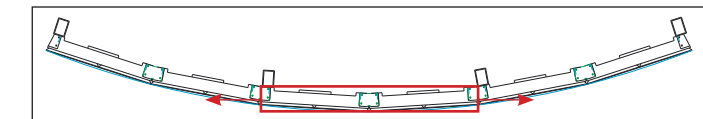
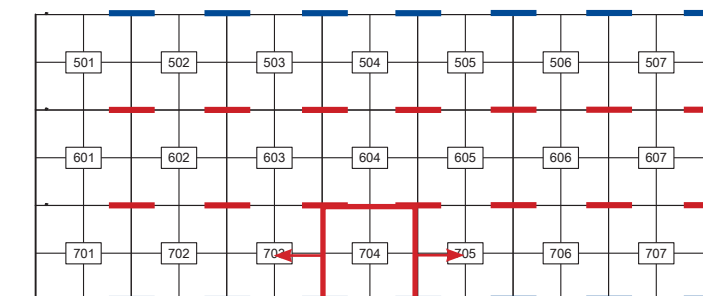

Figure 10: Install First Row of Panels (Top View)
Figure 11: Install First Row of Panels (Front View)
Note: Top and bottom interconnect angle plates are only used on the bottom of the first row and the top of the last row. Refer to **Figure 11** for typical installation location. The Top Interconnect bracket is shown in (blue). The Mid Display interconnect plate is shown in (red).
6. Repeat **Steps 3-5** for the remaining panels in the row, building from the center out and tightening the vertical interconnect hardware to 55 in-lbs. Refer to **Figure 10** and **Figure 11**. Ensure each panel is level and plumb.